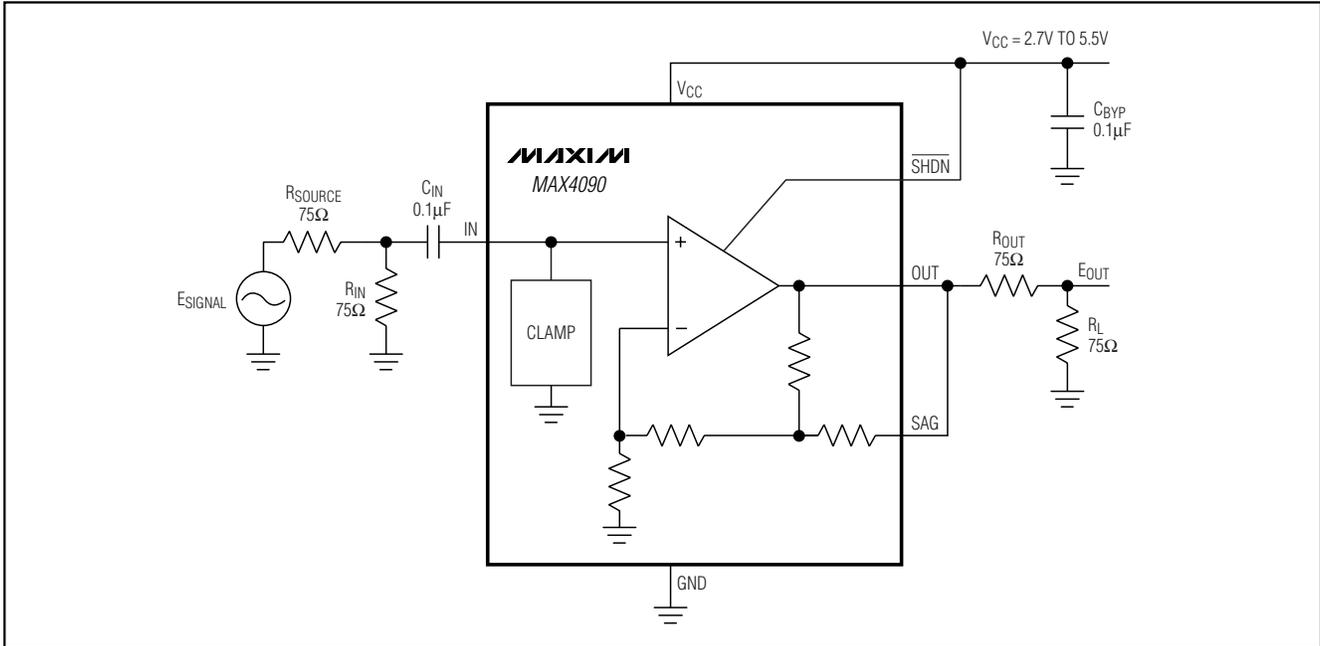

Figure 2. DC-Coupling the MAX4090
- 1) SAG is shorted to OUT and 150Ω is directly connected from OUT to ground (see Figure 2).